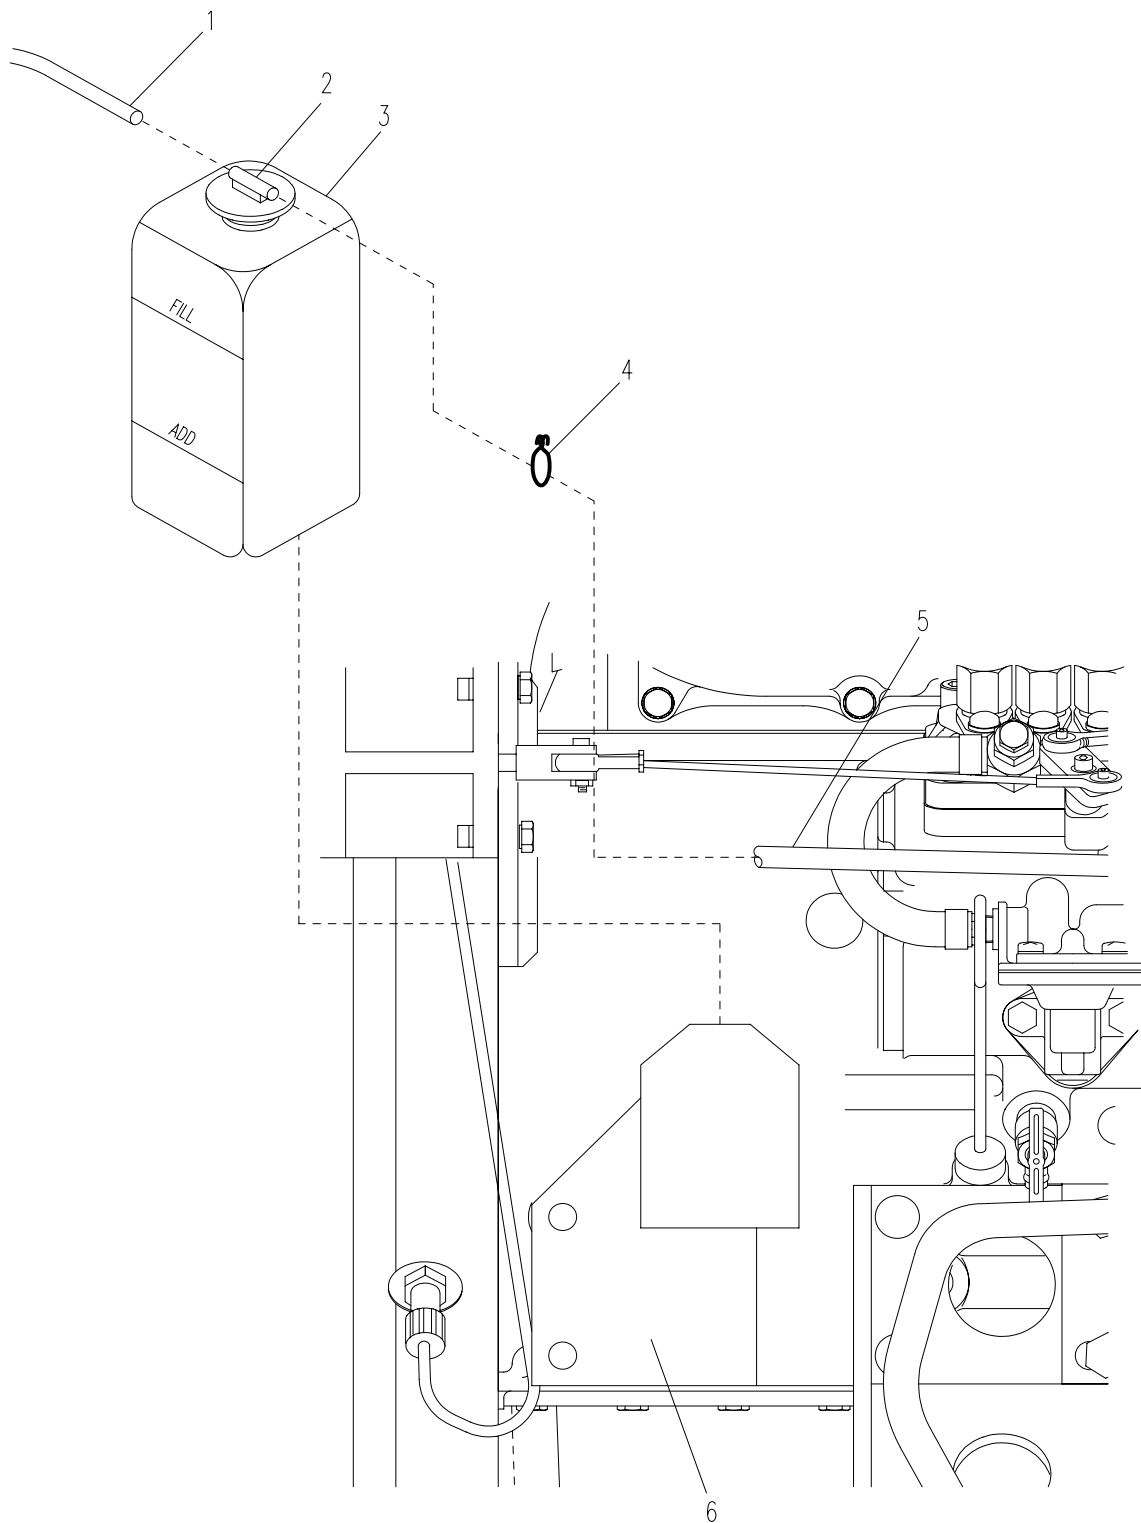

Figure 4-15. Radiator Overflow Tank
- a. Loosen clamp (4, Figure 4-15) and remove radiator overflow hose (5) from radiator overflow tank cap (2).
- b. Lift radiator overflow tank (3) off of radiator overflow tank bracket (6).
- c. Remove overflow hose (1) from radiator overflow tank cap (2).
- d. Install overflow hose (1) on new overflow tank cap (2).
- e. Install new radiator overflow tank (3) on radiator overflow tank bracket (6).
- f. Install radiator overflow hose (5) on radiator overflow tank cap (2) and secure with clamp (4).